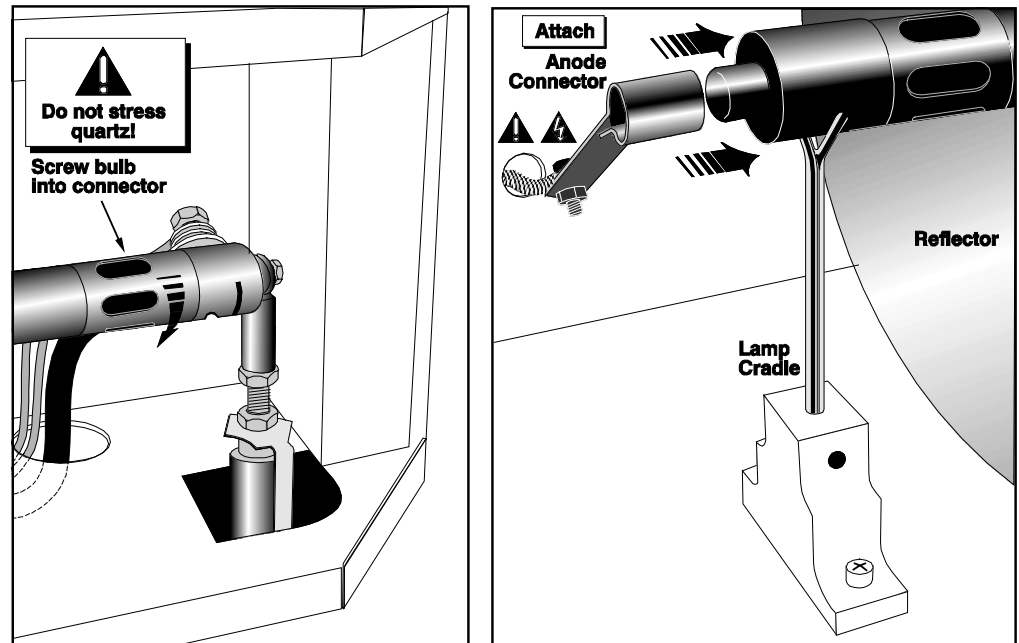

Figure 6.1. Install Bulb
- 8.1. ***With protective clothing and shield on***, insert the threaded cathode (–) end of the lamp into the negative lamp connector nut located in the rear of the lamp compartment and screw in fully (Figure 6.1, left). Hand-tighten only.
- 8.2. Rest the anode (+) end of the lamp on the lamp cradle as shown in Figure 6.1, right, and slip the positive lamp connector over the bulb end.